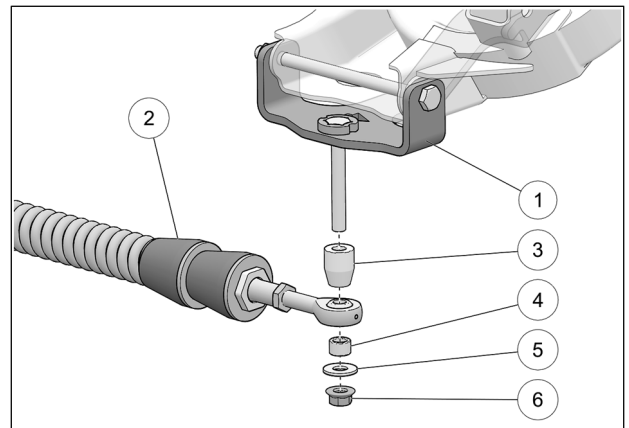

Fig. 11
10. Attach stabilizing rod (2) to anchor bracket (1), using the long spacer bushing (3), short spacer bushing (4), flat washer (5) and nut (6). Torque to 70 N•m [52 lb•ft]. See Fig. 11